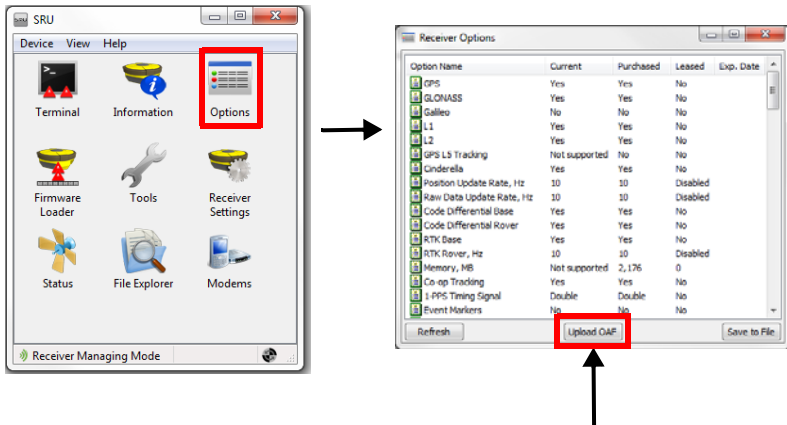

Figure 5-5. Checking Receiver Options
2. Click on the *Options* icon in the main window (Figure 5-5). The *Receiver Options* dialog box (Figure 5-5) displays the current authorization options and uploads new ones.
2. Press **Upload OAF** at the bottom of the *Receiver Options* dialog box (Figure 5-5 on page 5-5).
- Clear the NVRAM (see Figure 5-5 on page 5-5).